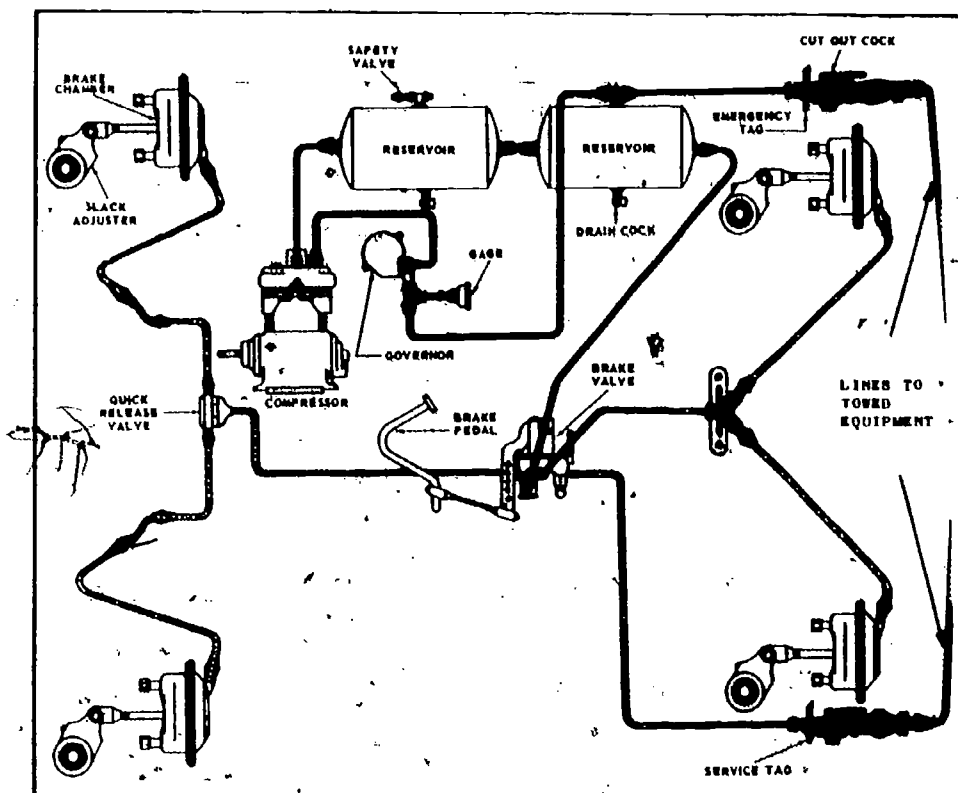

Fig 3-12. Airbrake system.
3. Air-actuated. These brakes are similar to hydraulic brakes. Where the pressure is transmitted by fluid in the hydraulic system, pressure is applied by compressed air or strong springs in the air-actuated system. Some systems use air pressure to engage the brakes (fig 3-12), while others use air pressure to keep the brake released. An air compressor, driven by the engine, compresses the air which is then stored in a reservoir. Air pressure is regulated by a governor which controls the air compressor. Movement of the brake pedal or lever opens a valve which allows the air to flow to the brake chamber. Air pressure in the chamber forces a diaphragm to move and also moves mechanical linkages (slack adjuster) which operate the brake. The system that uses air to release the brakes is very similar. It uses air pressure to overcome spring tension and force the brakes away from the drum.